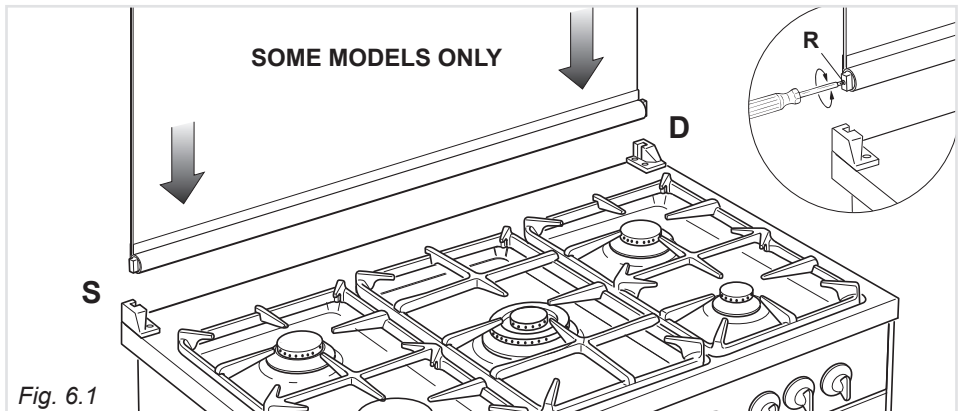

Fig. 6.1
- The right housing must receive the hinge marked "D" while the left housing must receive the hinge marked "S" (Fig. 6.1).
Lower the lid and check the correct balance. While opened at 45° it should hang up. The springs of the hinges can be adjusted if necessary by turning the screws "R" clockwise (fig. 6.1).